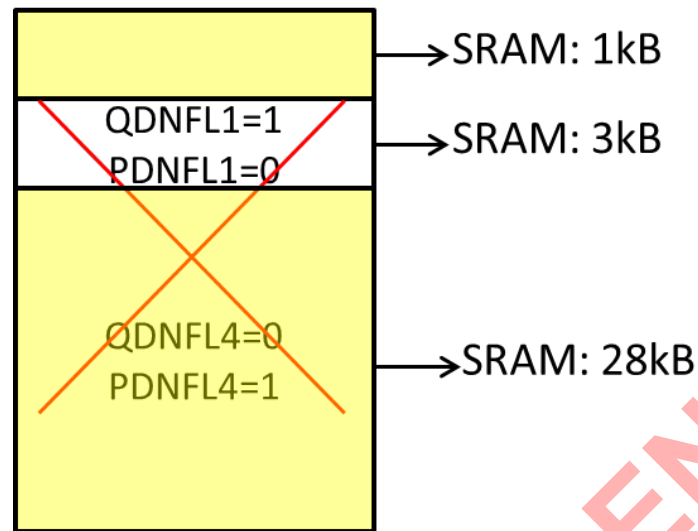

Figure 20.2 SRAM size
1. In PM1 and PM2 user can select SRAM size for 1kB, 4kB or 32kB (see Figure 20.2).